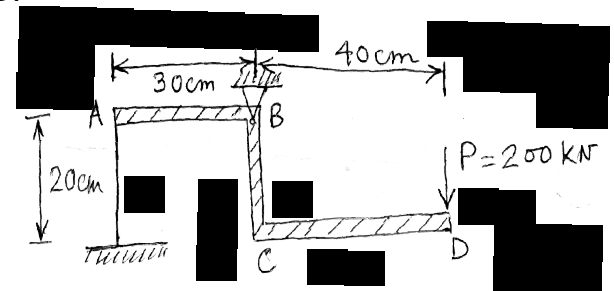

Fig. 1
- (c) A Z-shaped rigid bar ABCD, shown in Fig.1 is suspended by a pin at B and loaded by a vertical force P. At A a 10mm diameter steel tie rod AF connects the section to a firm ground support at F. Use  $E = 200 \text{ GPa}$ . Determine the vertical deflection at D. 10